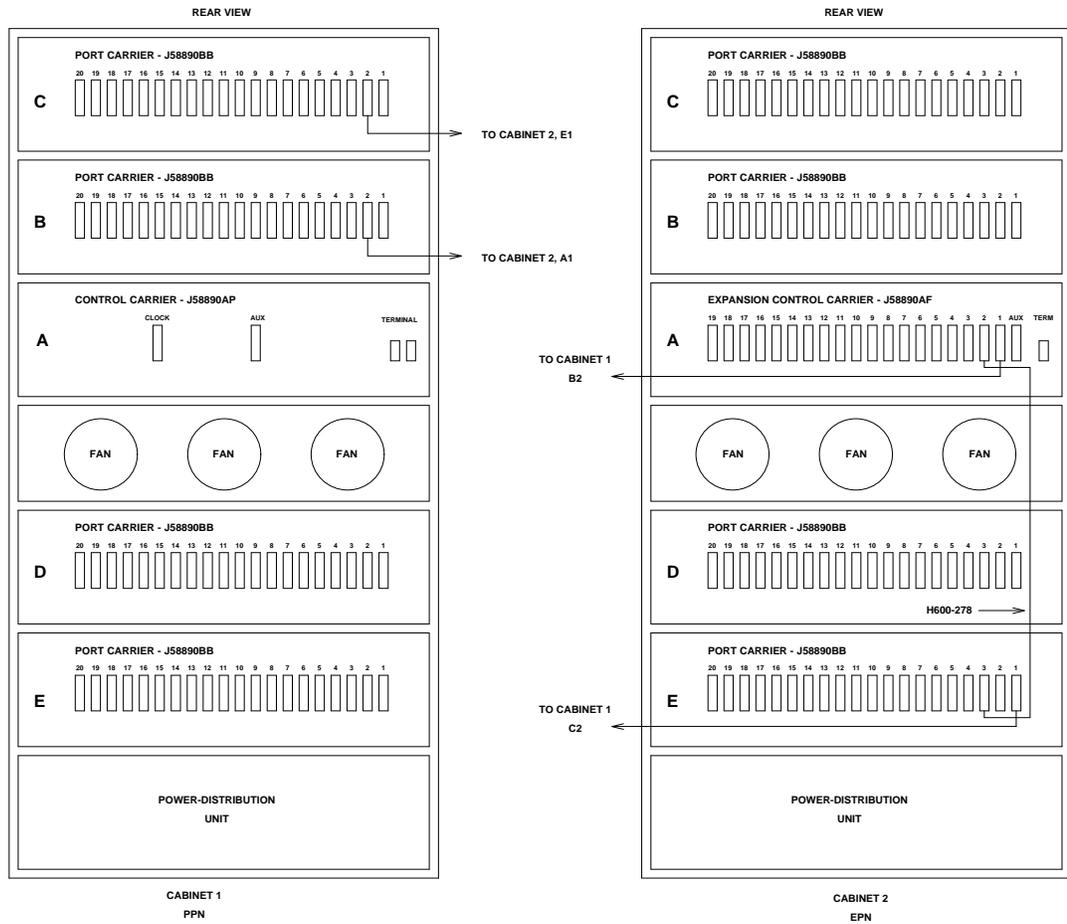
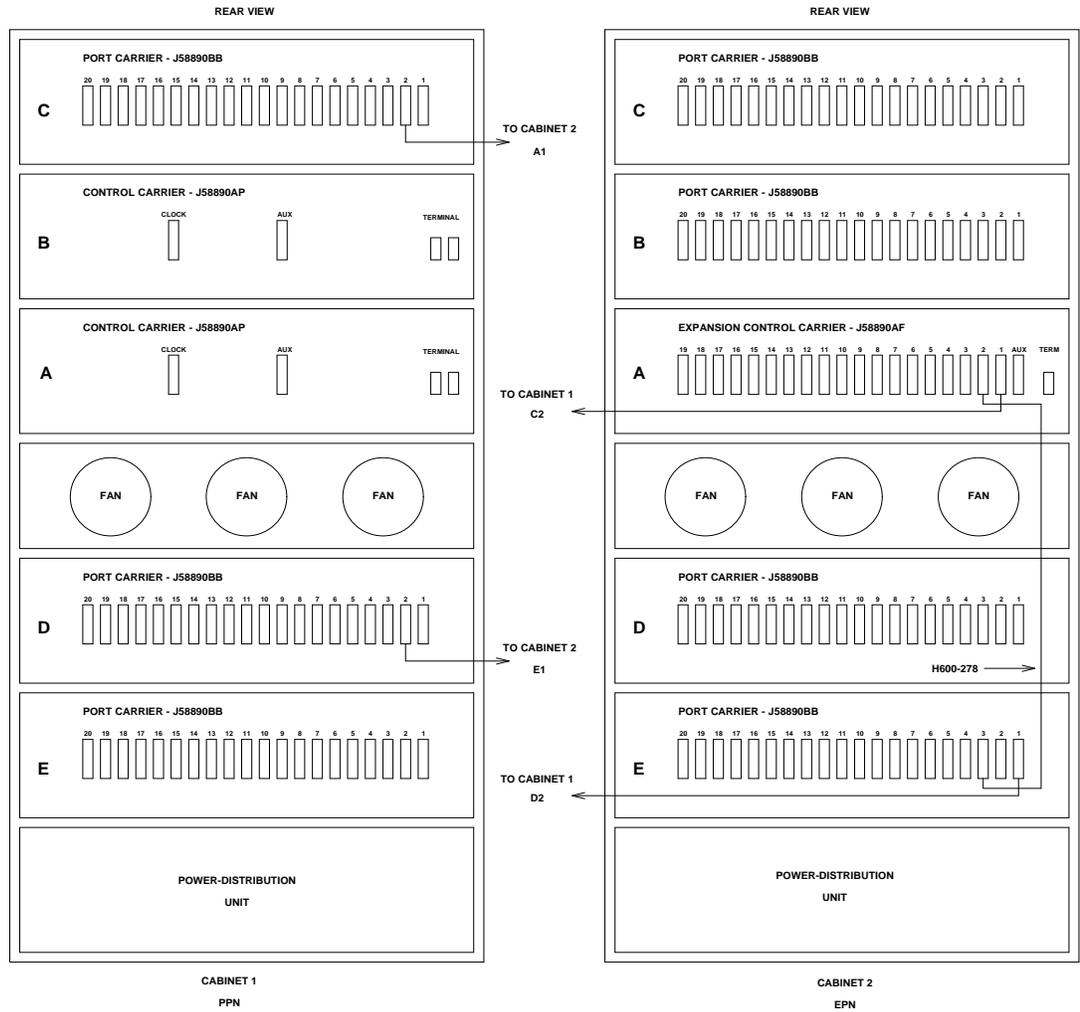
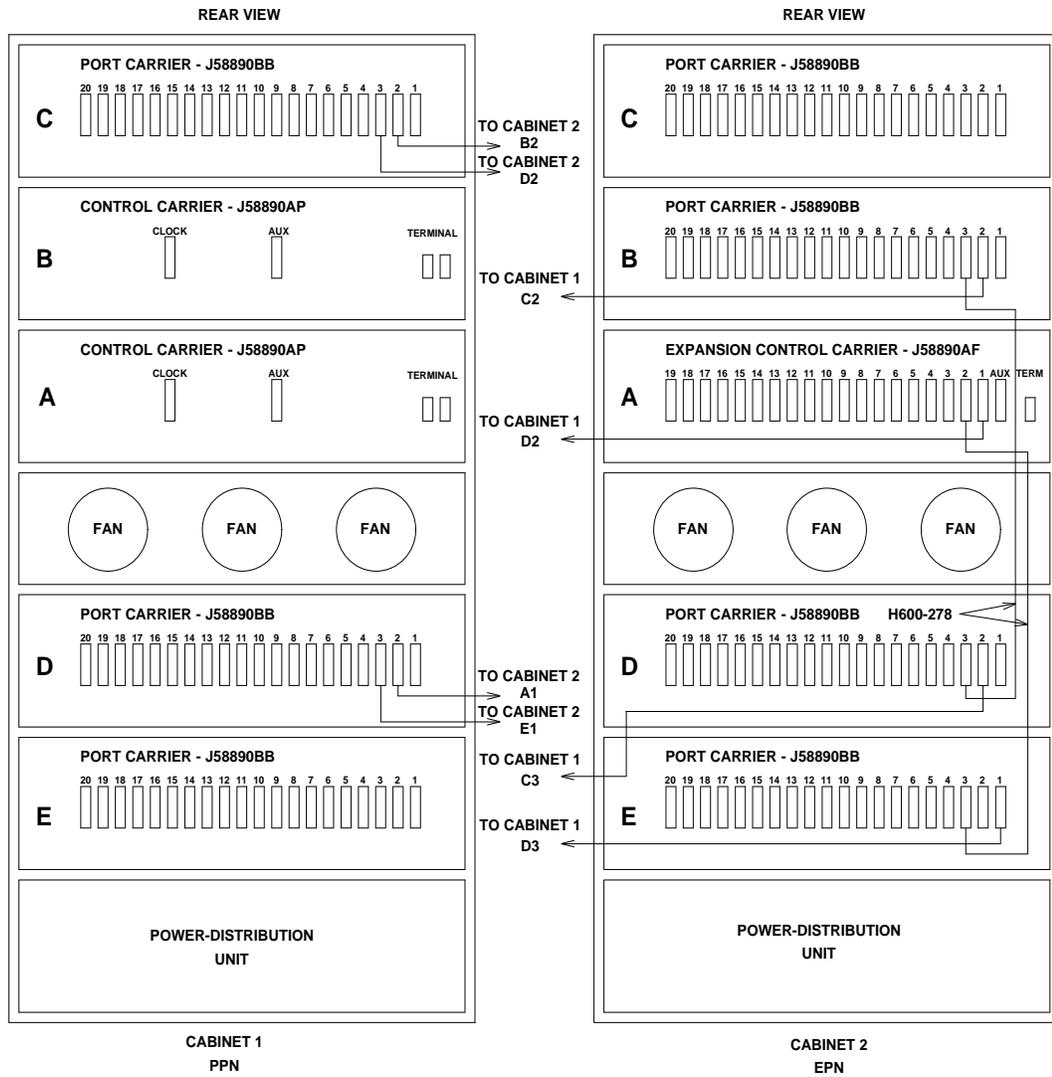
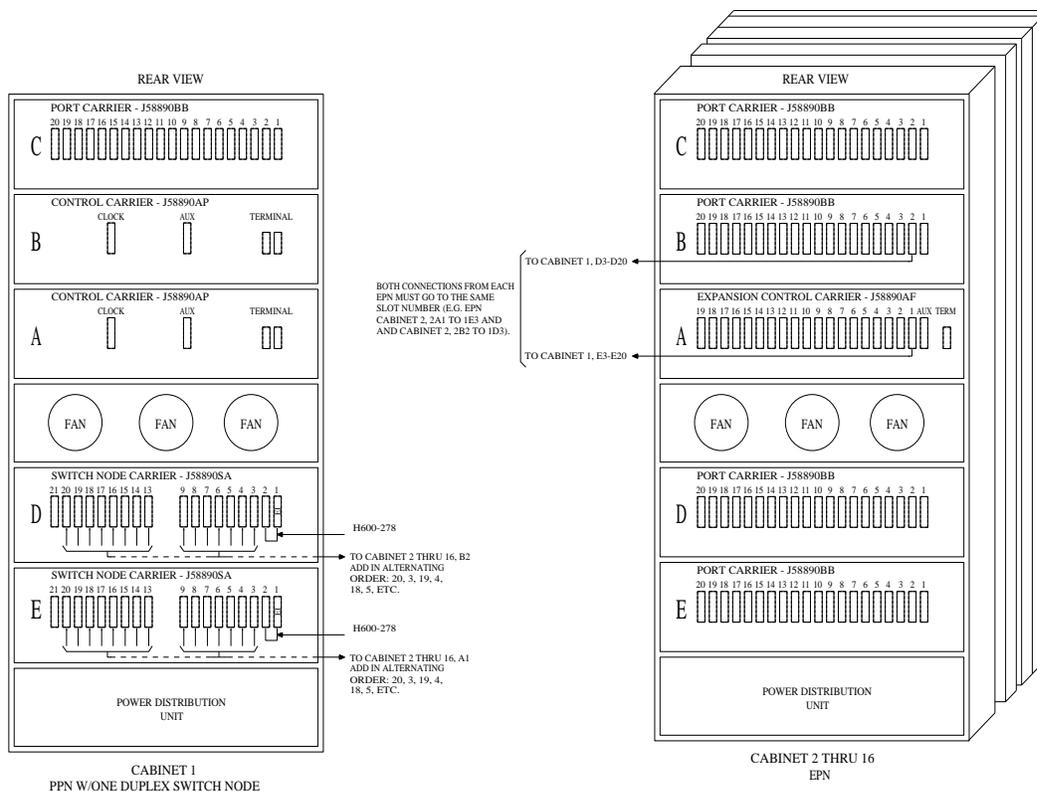

Figure 4-4. Standard-Reliability DEFINITY ECS R5r with Three Port Networks
Figure 4-6. High-Reliability DEFINITY ECS R5r with Three Port Networks
Figure 4-8. Critical-Reliability DEFINITY ECS R5r with Three Port Networks
Figure 4-9. Critical-Reliability Fiber-Optic Connections through Center Stage Switch
1. Install one or two TN570B Expansion Interface circuit packs in the new EPN (See Figure 4-4, Figure 4-6, or Figure 4-8).
2. Interconnect the new EPN to the system (See Figure 4-4 to Figure 4-9).